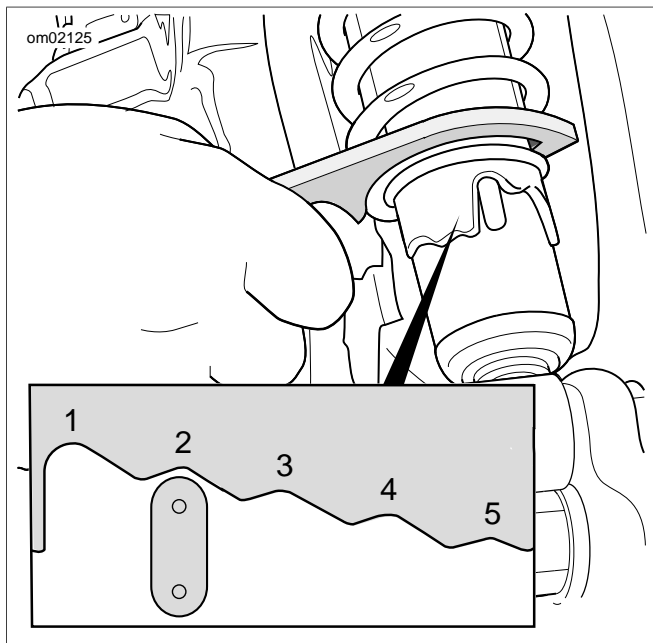

Figure 12. Shock Absorber Preload Adjustment
See Figure 12. Do not turn the preload cam from position five (5) to position one (1) or from position one (1) to position five (5).